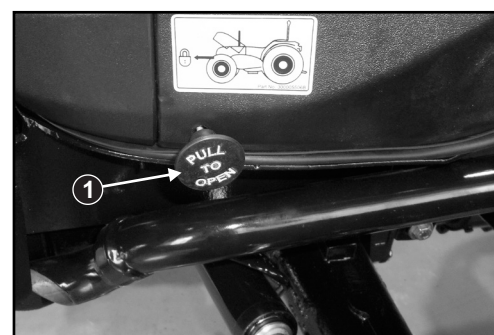

Fig. 4.3
Pull the knob (1) fig. 4.3) at front left side of the bonnet, till you hear a click sound, to open the bonnet.